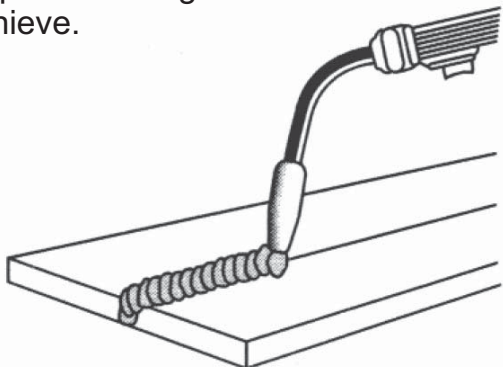

**Figure 12.** Weave Bead
2. The **WEAVE BEAD** (Figure 12) is used when you want to deposit metal over a wider space than would be possible with a stringer bead. It is made by weaving from side to side while moving with the gun. It is best to hesitate momentarily at each side before weaving back the other way.